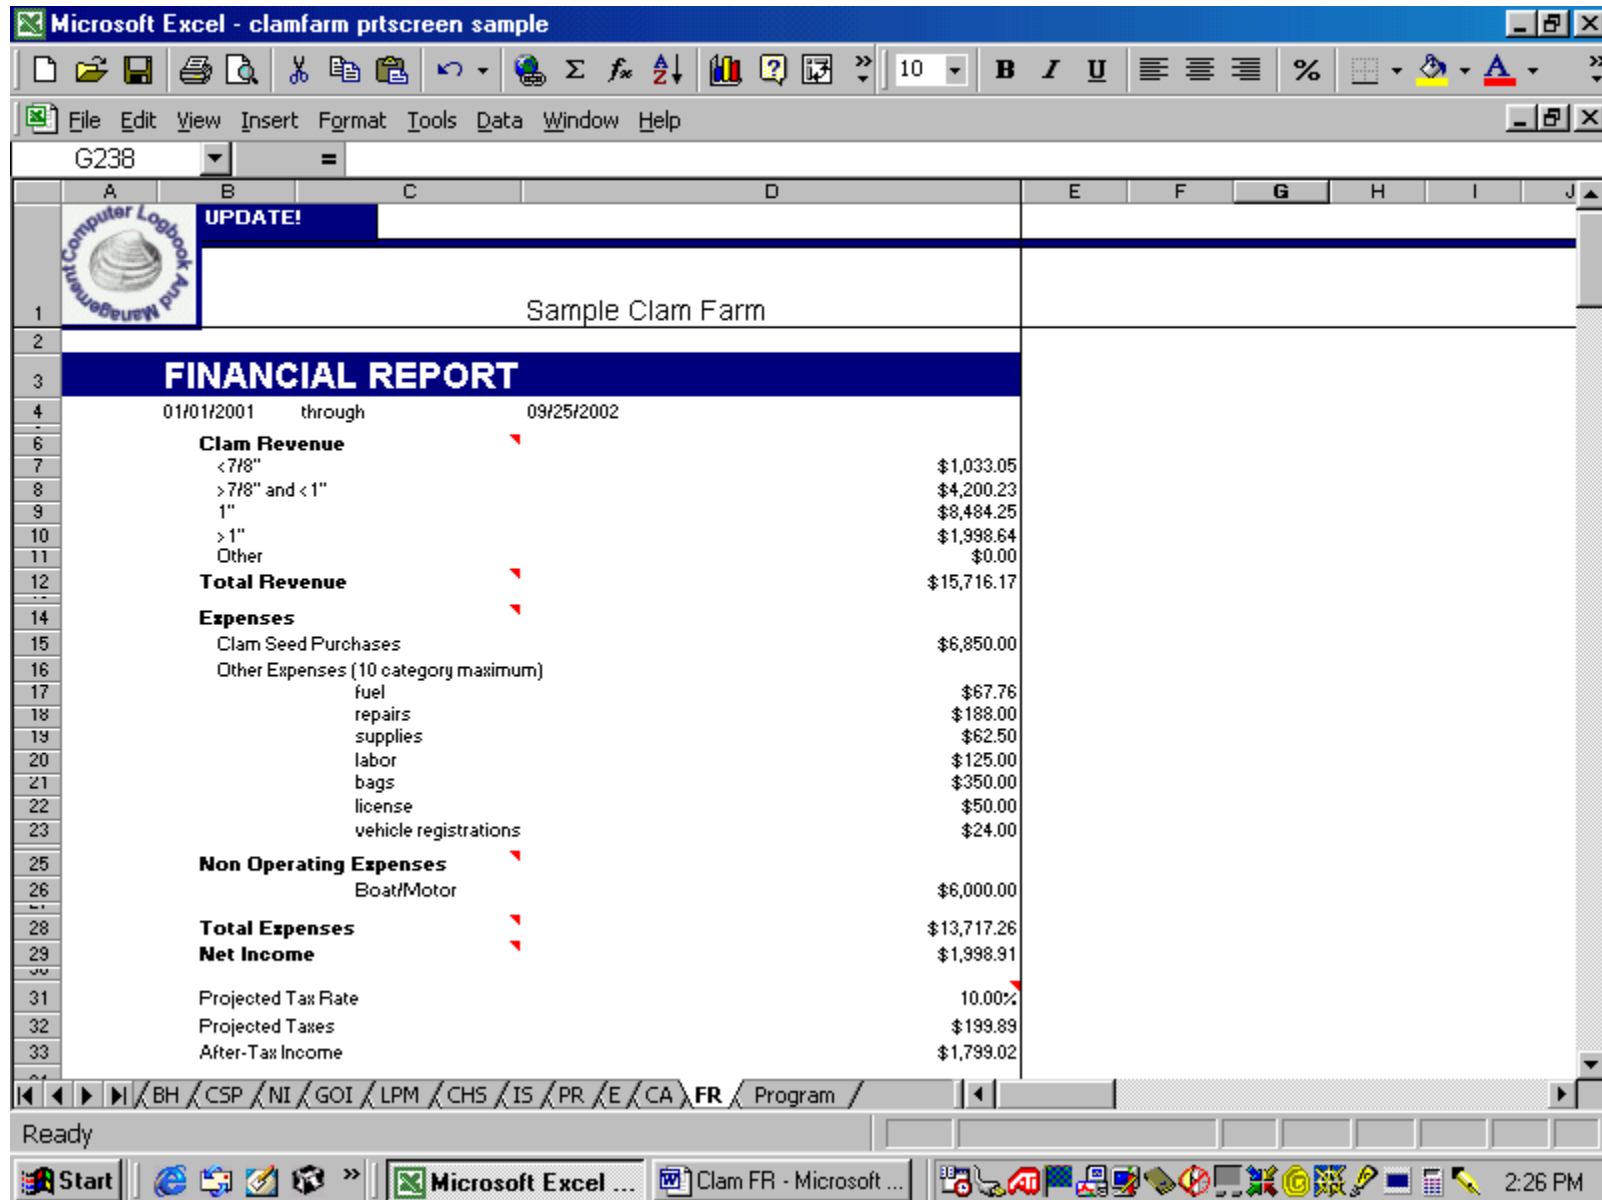

Figure 14.
**This module provides the user with an up-to-date estimate of profit or loss since the initial start date. (see Figure 14)**